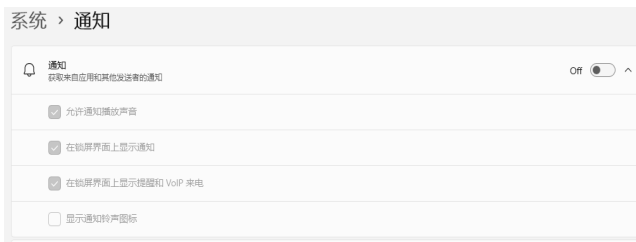

Figure 1.3.4 Disabling System Notifications
- 4 Tap Settings > Notifications & Actions, then toggle System Notifications to Off. As shown in Figure 1.3.4.